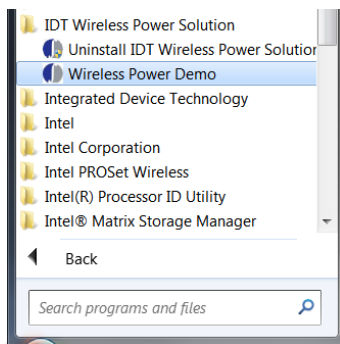

Figure 3. Starting the Graphical User Interface
5. Click Start >> All Programs >> IDT Wireless Power Solution (Folder) >> Wireless Power Demo (Application Icon) to open the GUI for IDTP9030 Wireless Power Transmitter Demo software Fig 3.